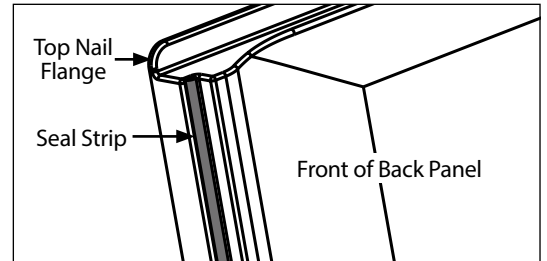

FIGURE 3. Place seal strip on both sides of back panel.
- Place seal strip along both sides of back panel removing protective paper as you apply. (Fig. 3)